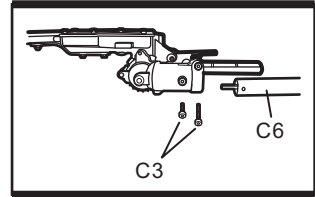

Fig. 7a
- a). Loosen the two bolts (C3) on the joint and then align the hole of the hedge trimmer shaft (C6). (See Fig. 7a)